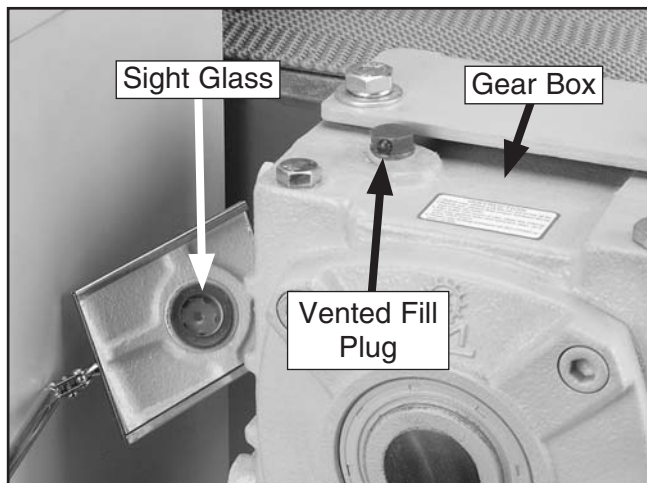

Figure 21. Sight glass location on gear box.
1. Check the sight glass shown on the back of the gear box with a mirror, as shown in **Figure 21**, to make sure gear oil is present.